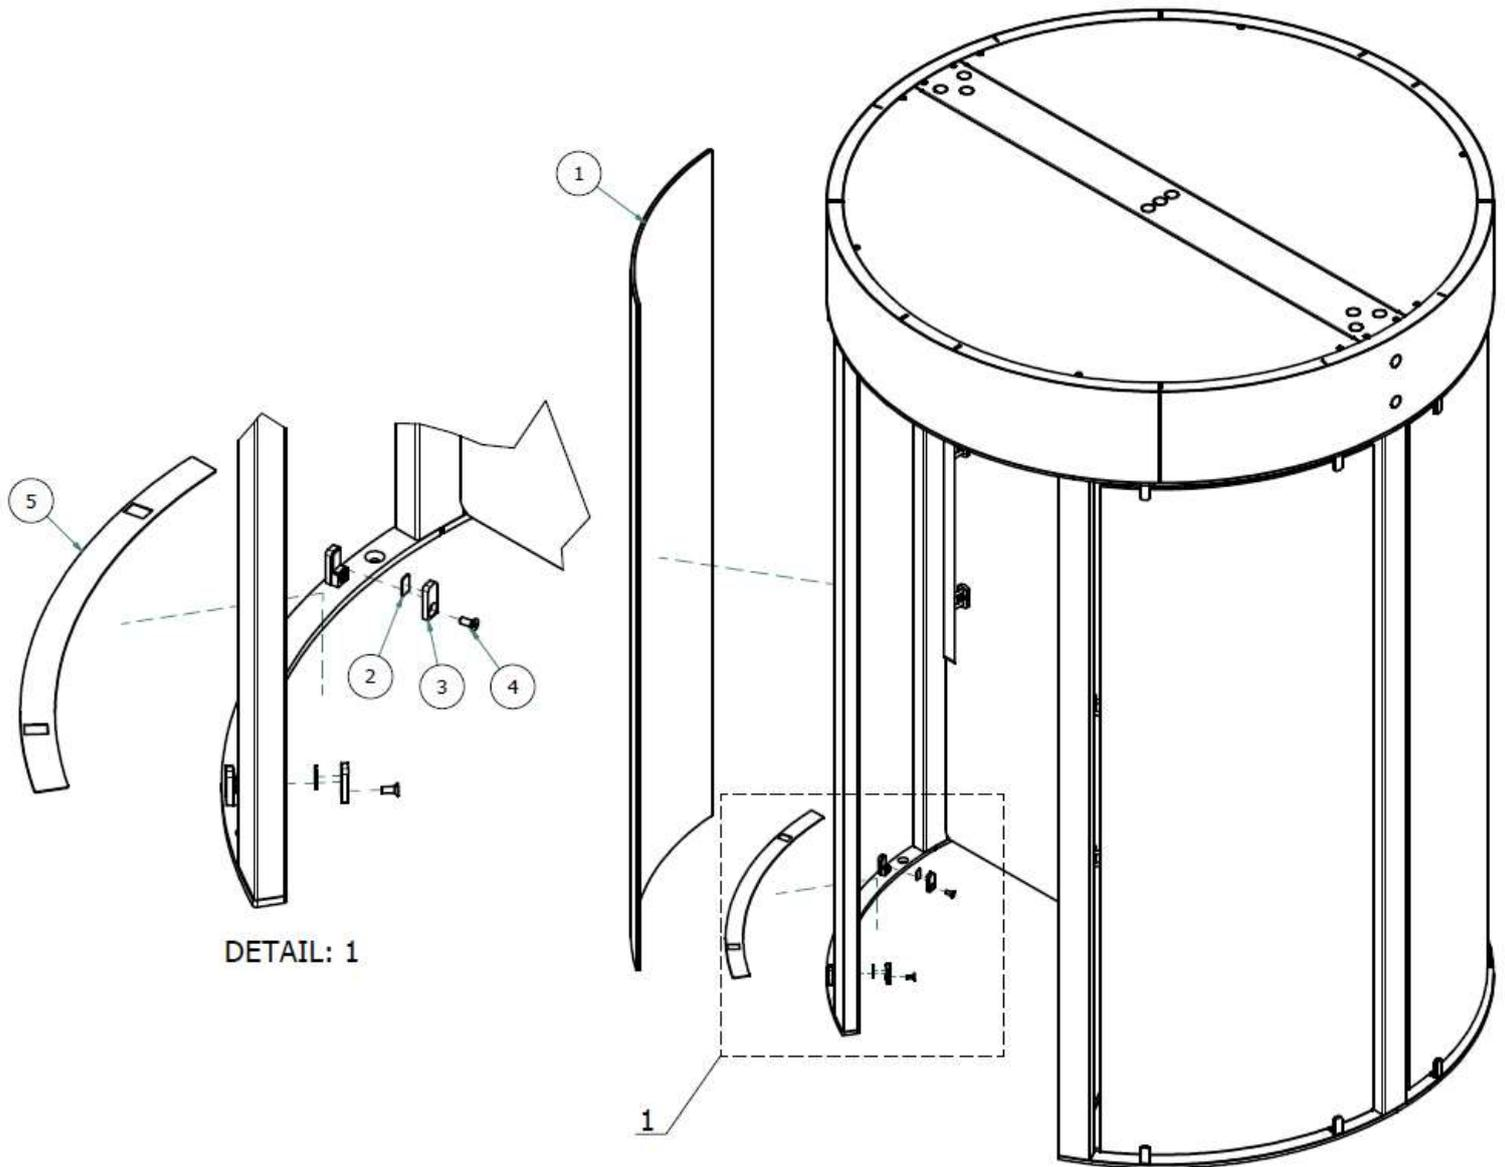

Figure 21: STEP 9 – Side Glass Assembly
- 5.32. Place the bottom covers first to cover up the bolting holes. Use contact adhesive to glue the plate down. See *Figure 21*.